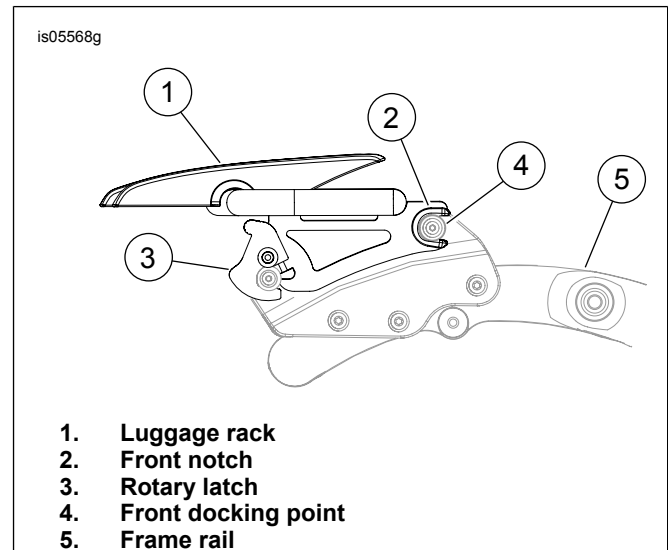

Figure 1. Stealth Luggage Rack
2. See Figure 1. While standing behind the motorcycle, place the rack side plate notches (2) into the forward docking points (4). Make sure the notches seat fully into the mounts.
The docking points must be fully engaged. See Figures 1 and 2 for correct engagement. If docking points are not fully engaged, it could shift position or come loose during operation.